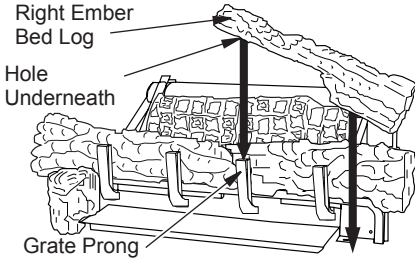

Figure 51 - Installing Right Ember Bed Log
5. The right ember bed log has a hole in the bottom that sets on the grate finger and the other end rest on the fireplace floor, place log as shown in Figure 51, page 25. The back side of this log needs to rest against the front of the base assembly, make sure the flame from the ember pan does not touch the ember bed log.